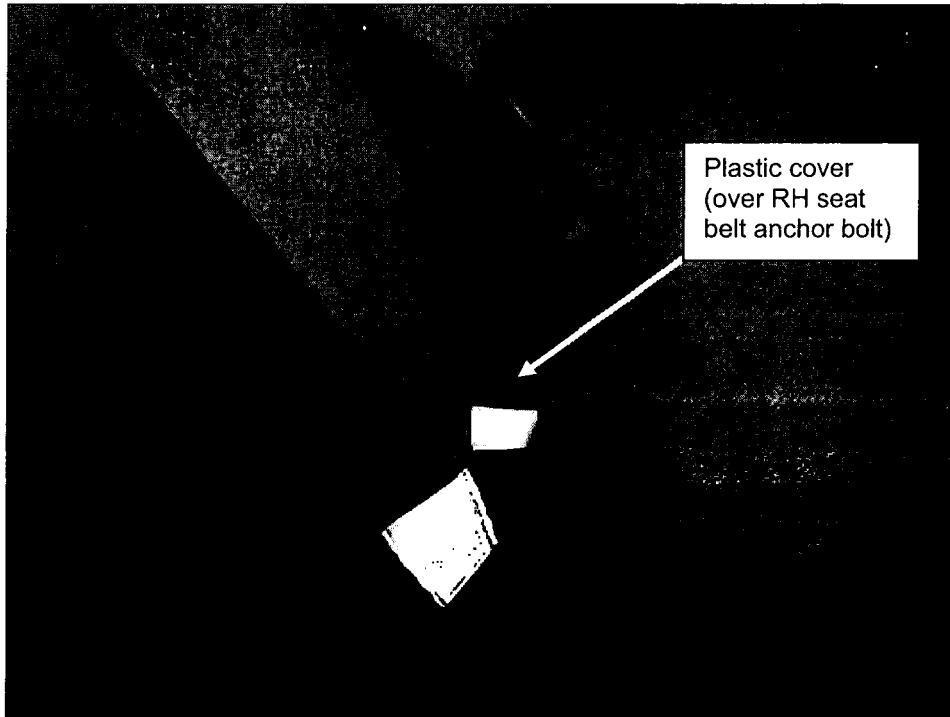

Figure 3
- Using a pick tool, carefully remove the plastic cover from the RH seat belt anchor bolt (see Figure 3).